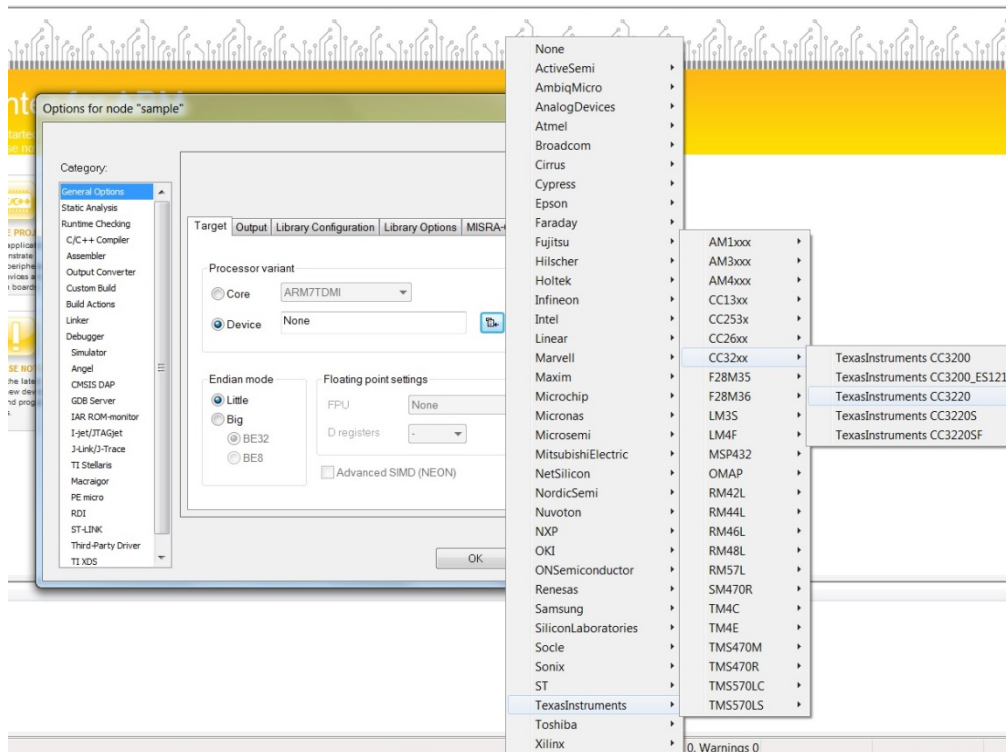
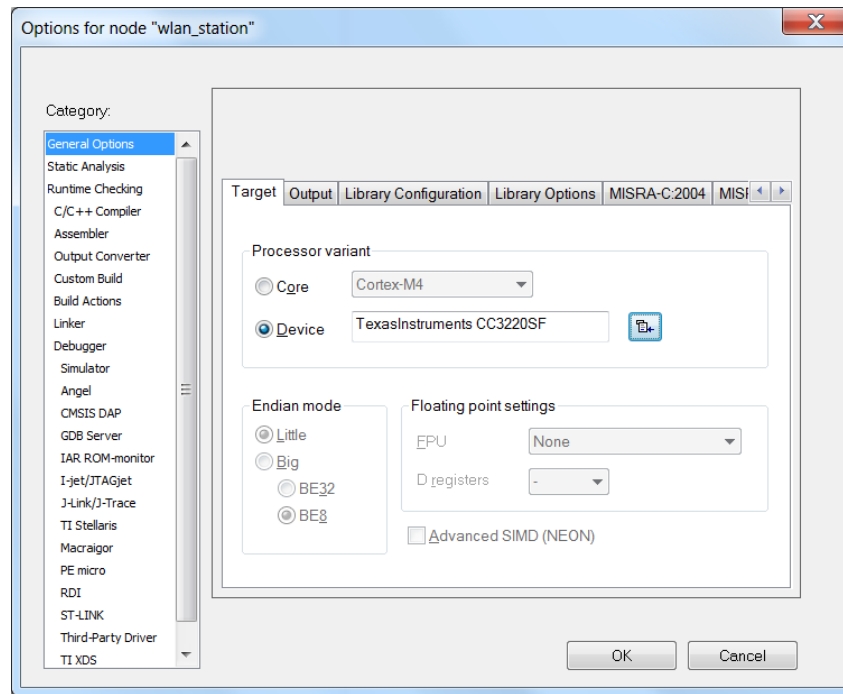

Figure 5-1. IAR Project Settings
Figure 5-2. Specify the Device Variant (IAR)
3. Open *Project Option*, and follow the settings as given in Figure 5-1 and Figure 5-2. Select the correct device variant (CC3220SF by default for all the existing applications in SDK).